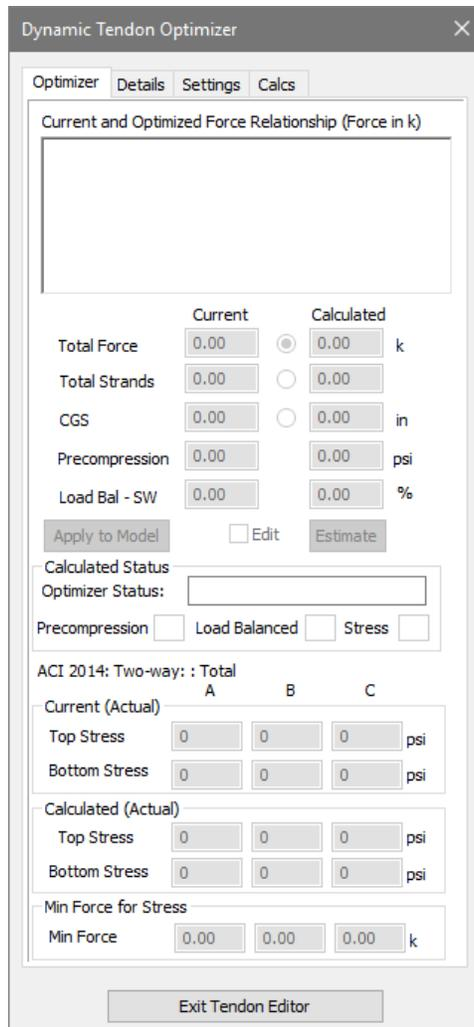

Figure 9-88
- Go to *Tendon* → *Design* and click on the *Tendon Optimizer* icon to open the *Dynamic Tendon Optimizer* window shown in **FIGURE 9-88**.